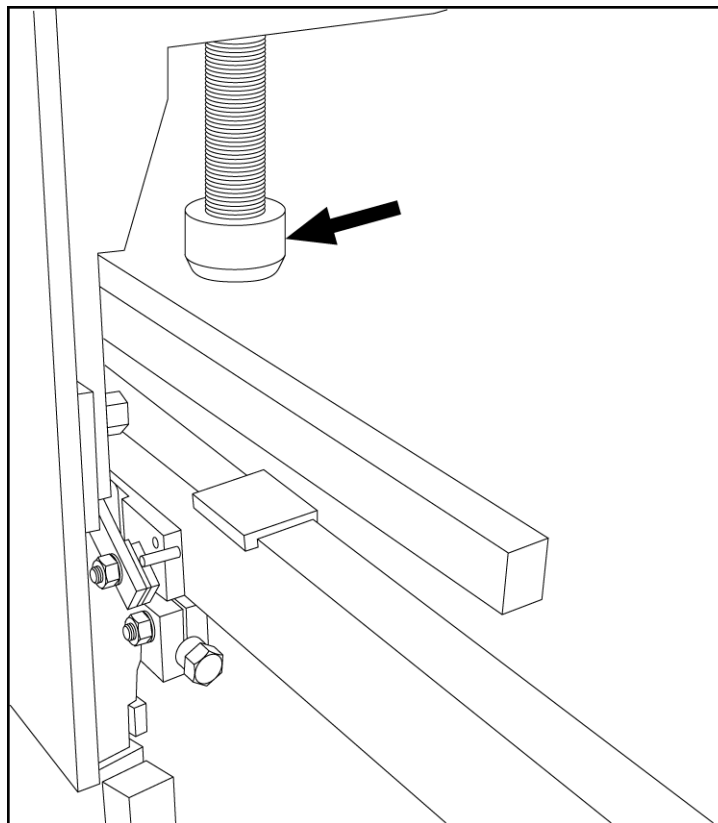

Figure 5.39 SHOCK ABSORBERS
- 5.9.12 The machine is ready to run; final adjustment may be needed when production is started. The shock absorbers should be adjusted so they take equal load on each side (see figure 5.39).